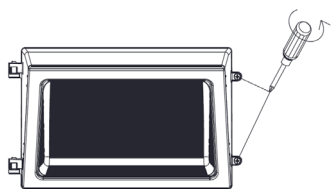

Fig. 2.1
1. Remove both screws on the side of the luminaire with a screwdriver. (Fig. 2.1)